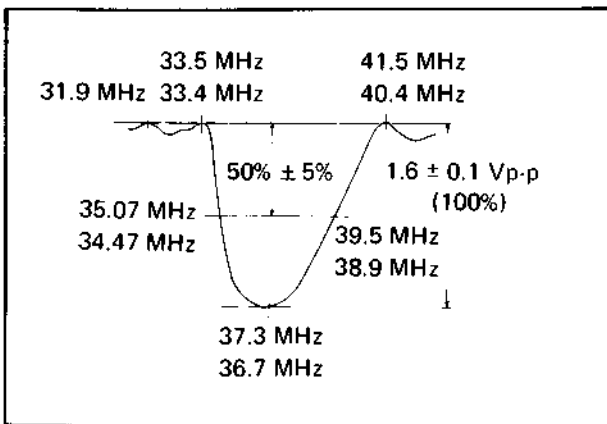

Fig. 5-48
12. Adjust C101 (trimmer cap.) so that the waveform height becomes 50% of the peak level at the 35.07 MHz and 39.5 MHz (HR-3660EK), 34.47 MHz and 38.9 MHz (HR-3660EG) markers as shown in Fig. 5-48.
14. Readjusting each trap exactly by turning the cores of T102 and T103, make sure that the waveform looks like that shown in Fig. 5-48.